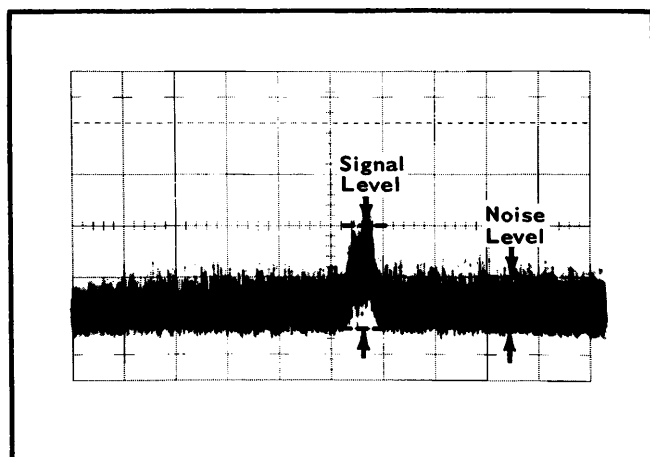

Fig. 6-21. Typical display for Sensitivity check (Step 13).
f. Adjust the RF Atten control of the generator so that the displayed signal is twice as high as the noise level. (See Fig. 6-21).